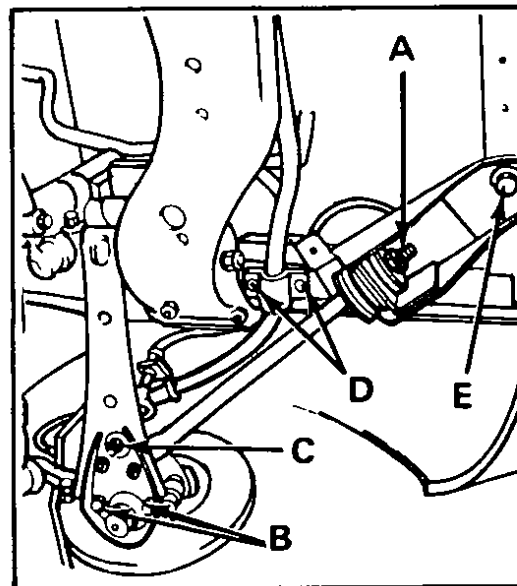

Fig 123 Removing stabilizer and tension rod
- Refer to Fig 123 and back off nut "A" securing tension rod to bracket and remove bolts "B" which secure tension rod to transverse link. The tension rod can now be taken out